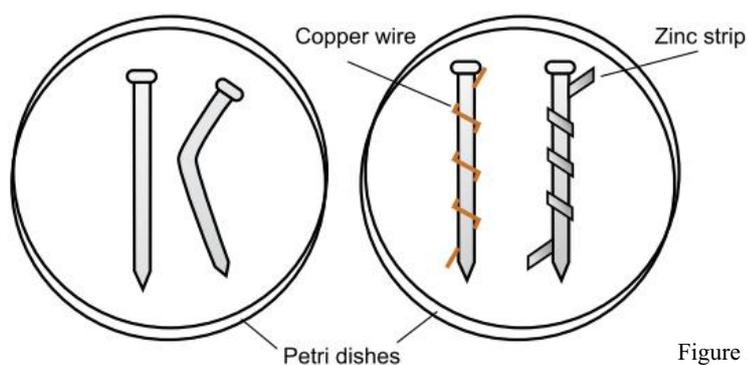

Figure 24.1
1. Collect two clean, non-painted, non-galvanised iron nails. Place a clean nail to one side of a petri dish and another, which has been sharply bent, to the other side of the petri dish as shown in Figure 24.1.
Place the two nails in a petri dish as shown in Figure 24.1. Ensure that the nails do not touch each other.